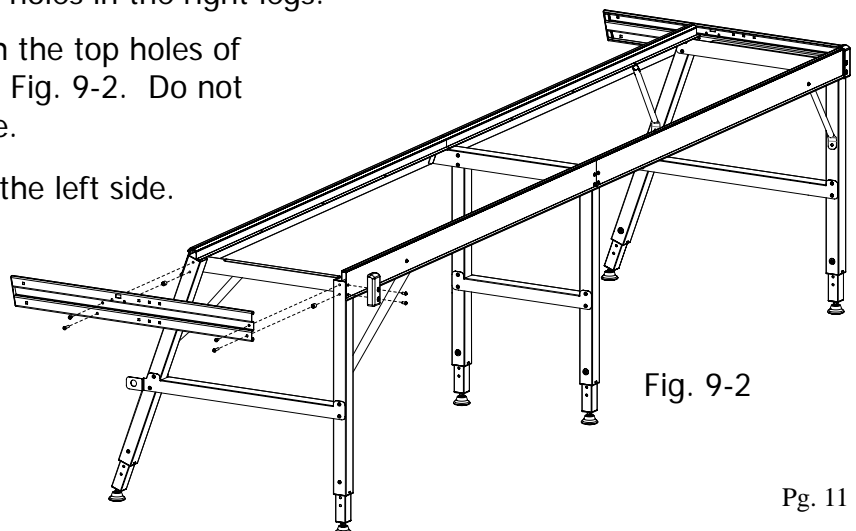

Fig. 9-2
**9-3:** Screw a M6 x 10mm SBHCS through the top holes of the Right Frame End and Leg, as show in Fig. 9-2. Do not completely tighten the screws at this time.